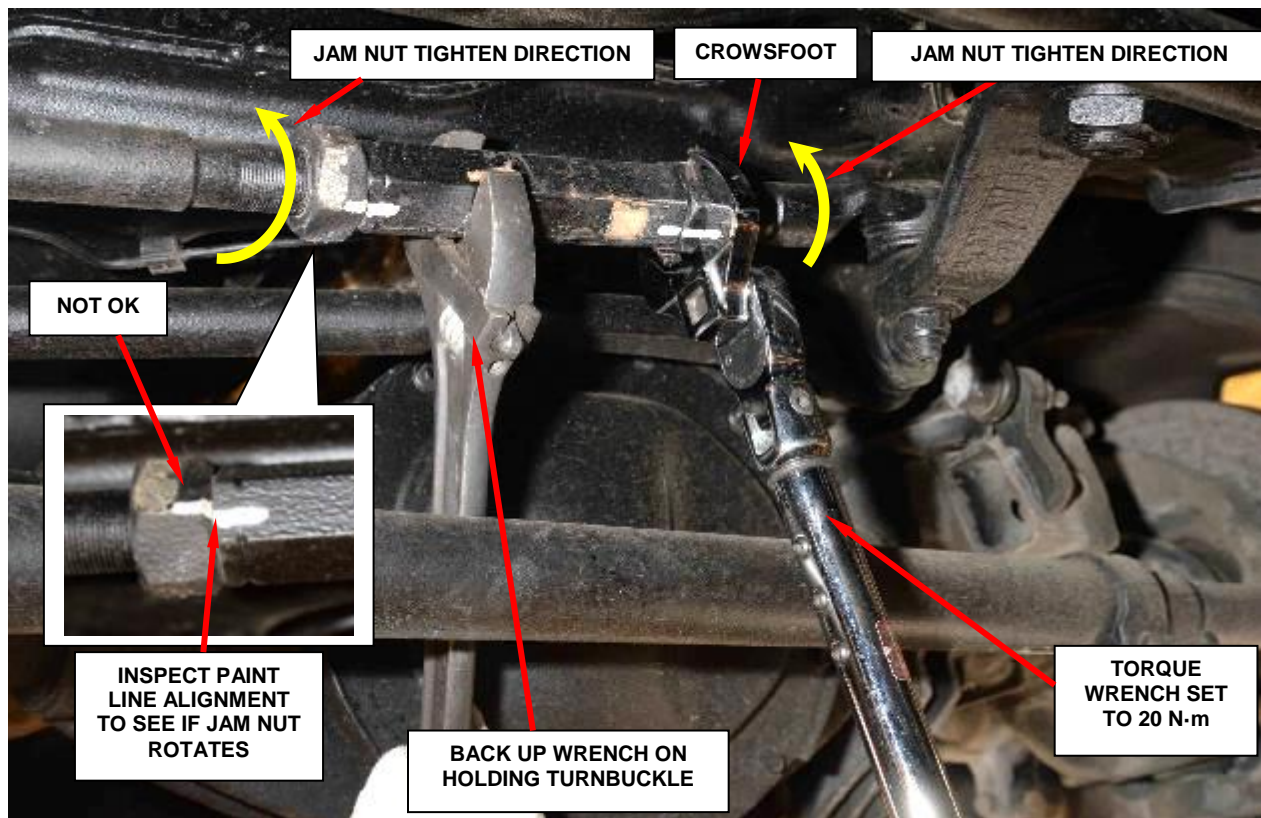

Figure 2 – Inspect for Jam Nut Movement
4. Hold the drag link turnbuckle with back-up wrench (Figure 2).
5. Using a 41 mm crowsfoot, such as Special Tool 2069400190 (Snap-on SCOM41) or equivalent, set a torque wrench to 20 N·m (15 ft. lbs.) (Figure 2).
6. Rotate each jam nut **in direction as shown** (tightening direction) until wrench clicks or 20 N·m (15 ft. lbs.) is achieved (Figure 2).
2. After adjustment, using a backer wrench and a 41 mm crow'sfoot, such as Special Tool 2069400190 (Snap-on SCOM41) or equivalent, tighten the drag link turnbuckle jam nuts to 148 N·m (109 ft. lbs.). **Make sure the toe setting does not change during tightening (Figure 2).**
10. Using a backer wrench and a 41 mm crowsfoot, such as Special Tool 2069400190 (Snap-on SCOM41) or equivalent, set a torque wrench to 105 N·m (77 ft. lbs.) and attempt to loosen each jam nut (ref: Figure 2 for set-up).